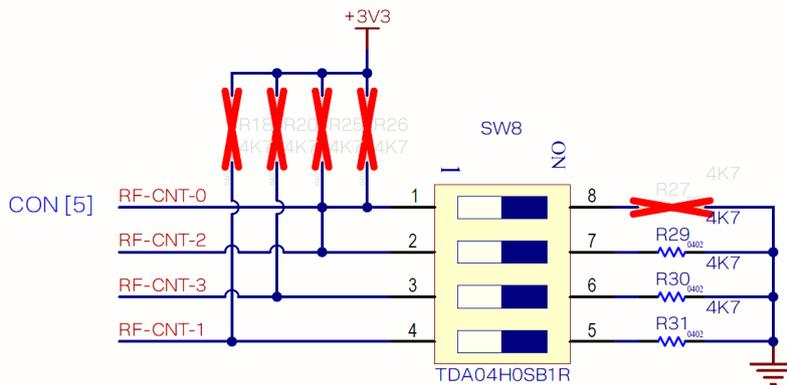

Figure 23: RF-CNTRL strap-in SW8
**SW8** is used to set the RF-CNTL signals to the desired status as shown in Figure 23. An external target hardware can be attached to the **J20** header connector for firmware programming and debug. **J20** is implemented with a 2x5 header with 1.27 mm pitch.